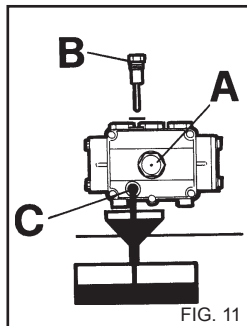

FIG. 11
- 2) Unscrew the cap with the dipstick (fig. 11).